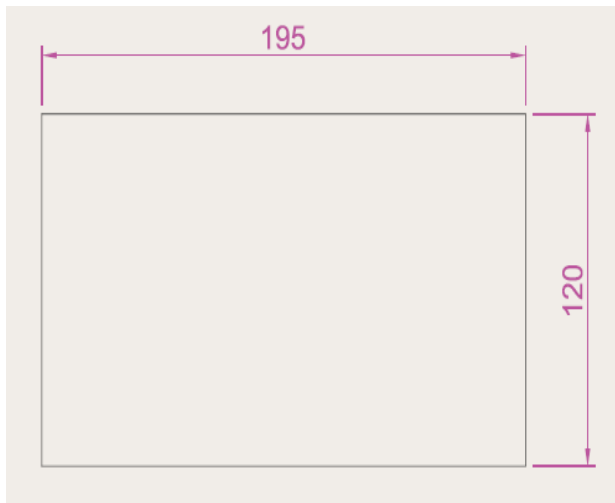

Figure 1
1. Draw the figure 1 by invoking line tool in absolute coordinate system?